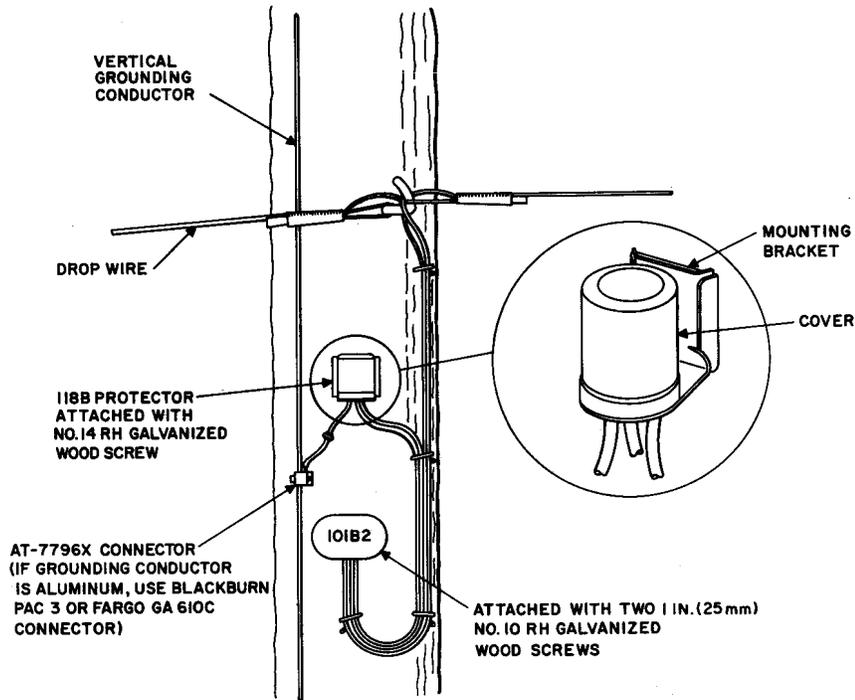
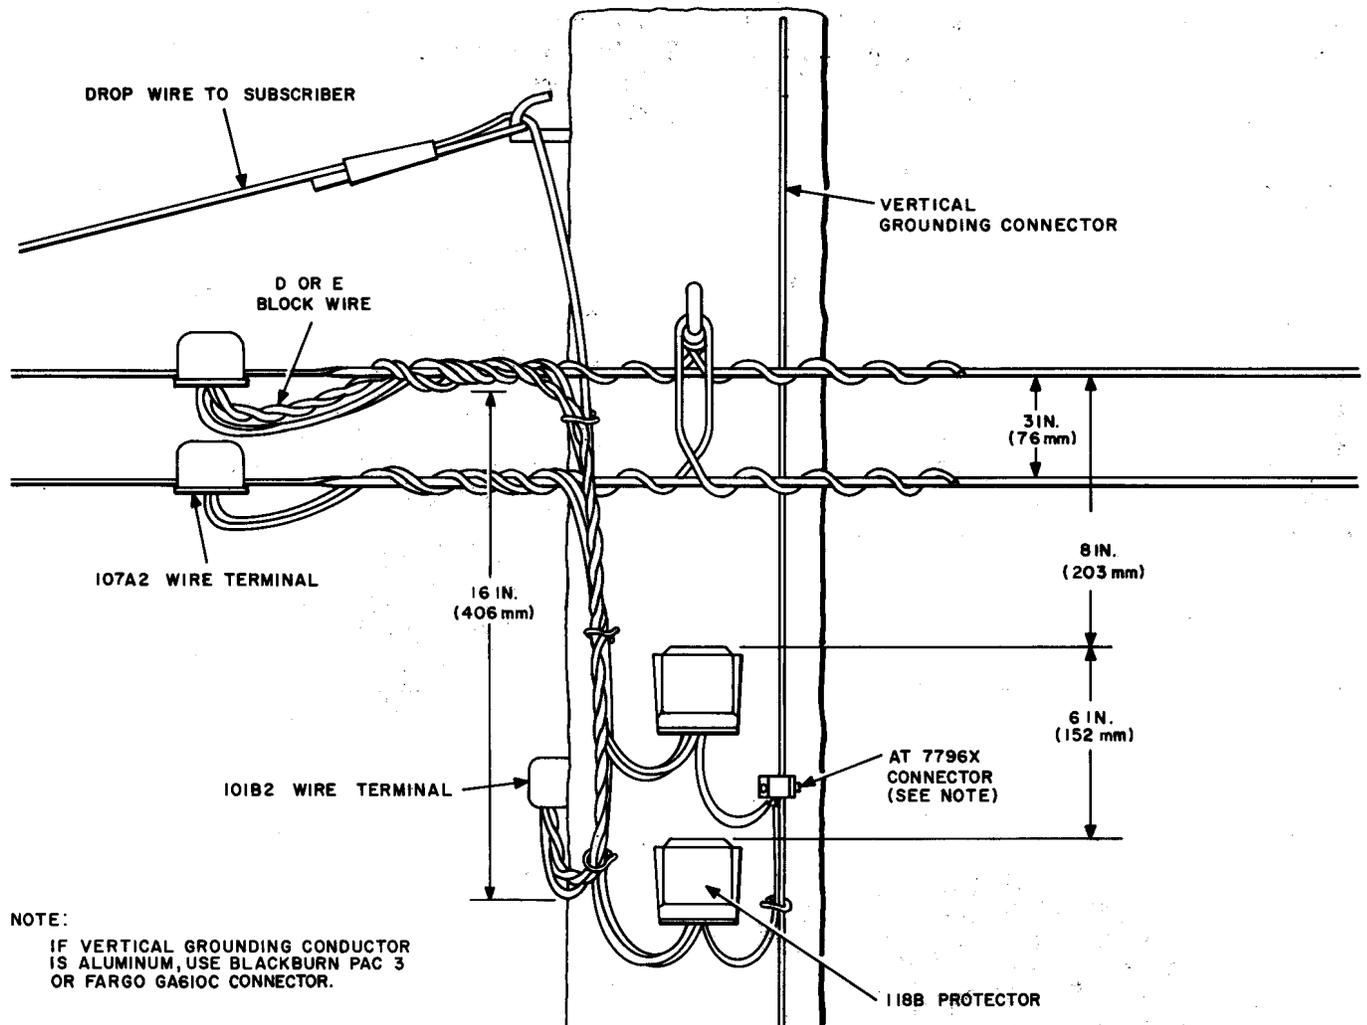

Fig. 101—118B Protector Connected to Drop Wire
Fig. 102—118B Protectors Connected to Rural Wires
13.02 The 118B protectors are connected to drop wires (Fig. 101) or rural wires (Fig. 102) as specified by detailed plans, telephone company engineering or supervisory instructions. The 118B